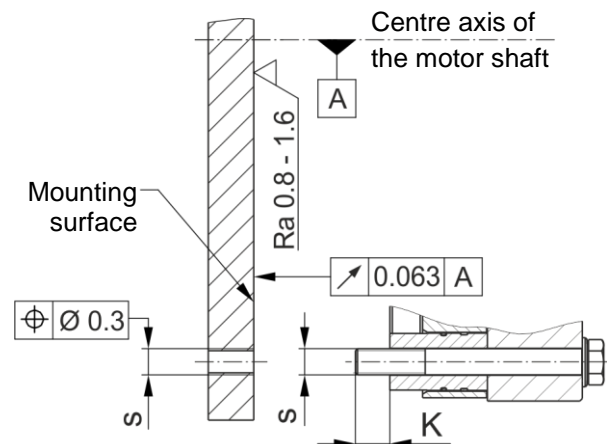

Fig. 7
- ❑ The mounting dimensions and the tapped holes s with depth $K + 2 \text{ mm}$ (K = screw projection) according to the applicable assembly drawing must be given (Fig. 7).
- ❑ The O-ring (9) must be lightly greased.
- ❑ The toothings of the motor shaft and the rotor (3) must not be oiled or greased.